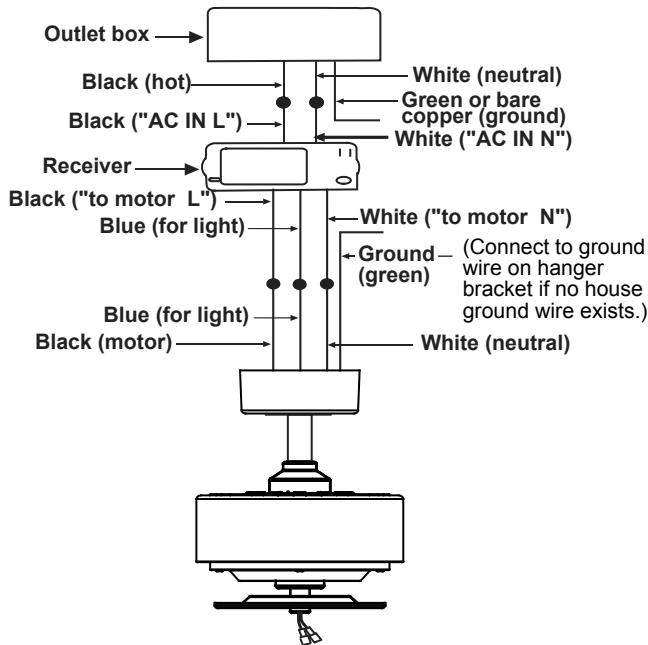

Fig. 15
**Step 2.** Motor to Receiver Electrical connections: Connect the black wire from the fan to the black wire marked "TO MOTOR L" on the receiver. (Fig. 15)
**Step 3.** Receiver to House Supply Wires Electrical Connections: Connect the black (hot) wire from the ceiling to the black wire marked "AC IN L" from the receiver. Connect the white (neutral) wire from the ceiling to the white wire marked "AC in N" from the Receiver. Secure the wire connections with the plastic wire nuts provided. (Fig. 15)
**Step 4.** If your outlet box has a ground wire (green or bare copper) connect it to the fan ground wires; otherwise connect the hanging bracket ground wire to the mounting bracket. Secure the wire connection with a plastic nut provided. After connecting the wires, spread them apart so that the green and white wires are on one side of the outlet box and black and blue wires are on the other side. Carefully tuck the wire connections up into the outlet box. (Fig. 15)